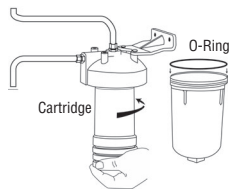

Figure 11
11. Install cartridge by threading into head about 5-6 revolutions. Do not overtighten. Lubricate o-ring with water and put it back in housing groove. Thread the housing back on the head and hand tighten. Using of wrench to tighten the housing may damage housing and result in water leakage. (Figure 11)